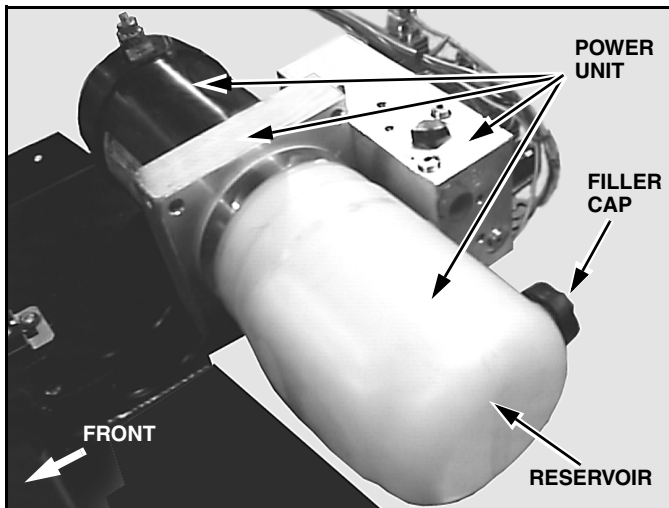
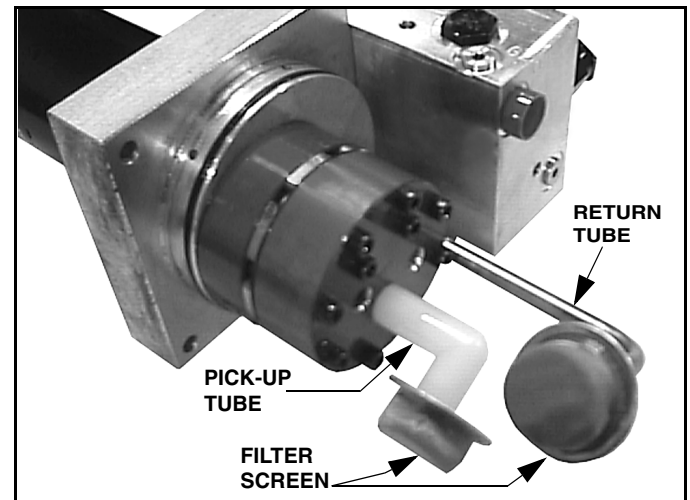

Figure 2-3
Figure 2-4
7. Lift the power unit and rotate it toward the rear of the pump platform. (See Figure 2-3).
of the reservoir oil pick-up tube and be sure the tube is in the same position when the filter is removed and installed. (See Figure 2-3)(See Figure 2-4).
10. Pull the filter screens from the oil pick up tube and return tube and clean them with a suitable solvent. Blow-dry the filter from the inside with low-pressure air. (See Figure 2-4).